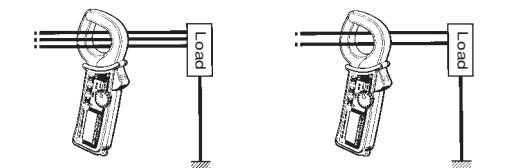

Fig. 2 Measuring out of balance leakage current
- (3) Measuring out of balance leakage current (See Fig. 2):